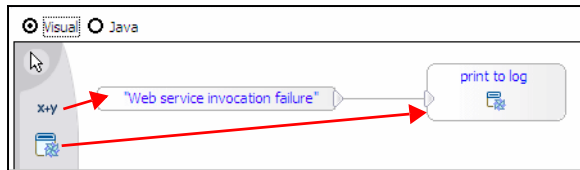

Figure 16-42 Visual snippet with message to the console
- ▶ Select the snippet and in the Properties view, Details tab, add a visual snippet to write a message to the console log (Figure 16-42).